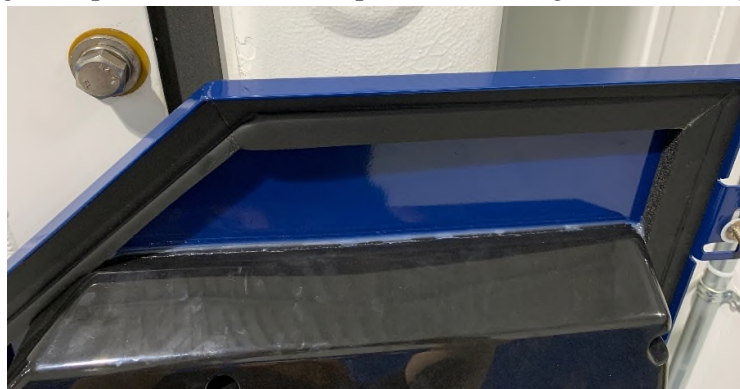

Figure 7b: Caulking of Rain Shield
20. Caulk along the top of the rain shield to prevent water ingress. See figure 7b.